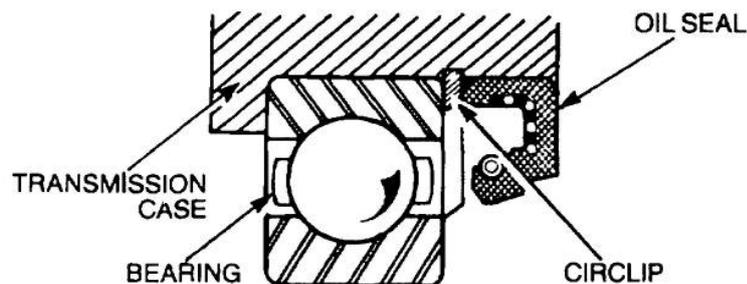

Figure 177 Installation of the Mainshaft Rear Bearing and Oil Seal
- a. Using a suitable press, insert the new mainshaft rear bearing into the transmission case and secure it with the circlip. Using special tool 18G1426, press in the oil seal with the lip towards the front of the case (Figure 177).